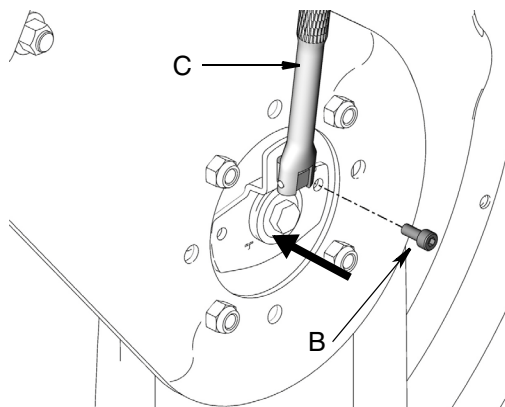

FIG. 14
5. Replace one screw (B). Leave ratchet (C) in place (FIG. 14).